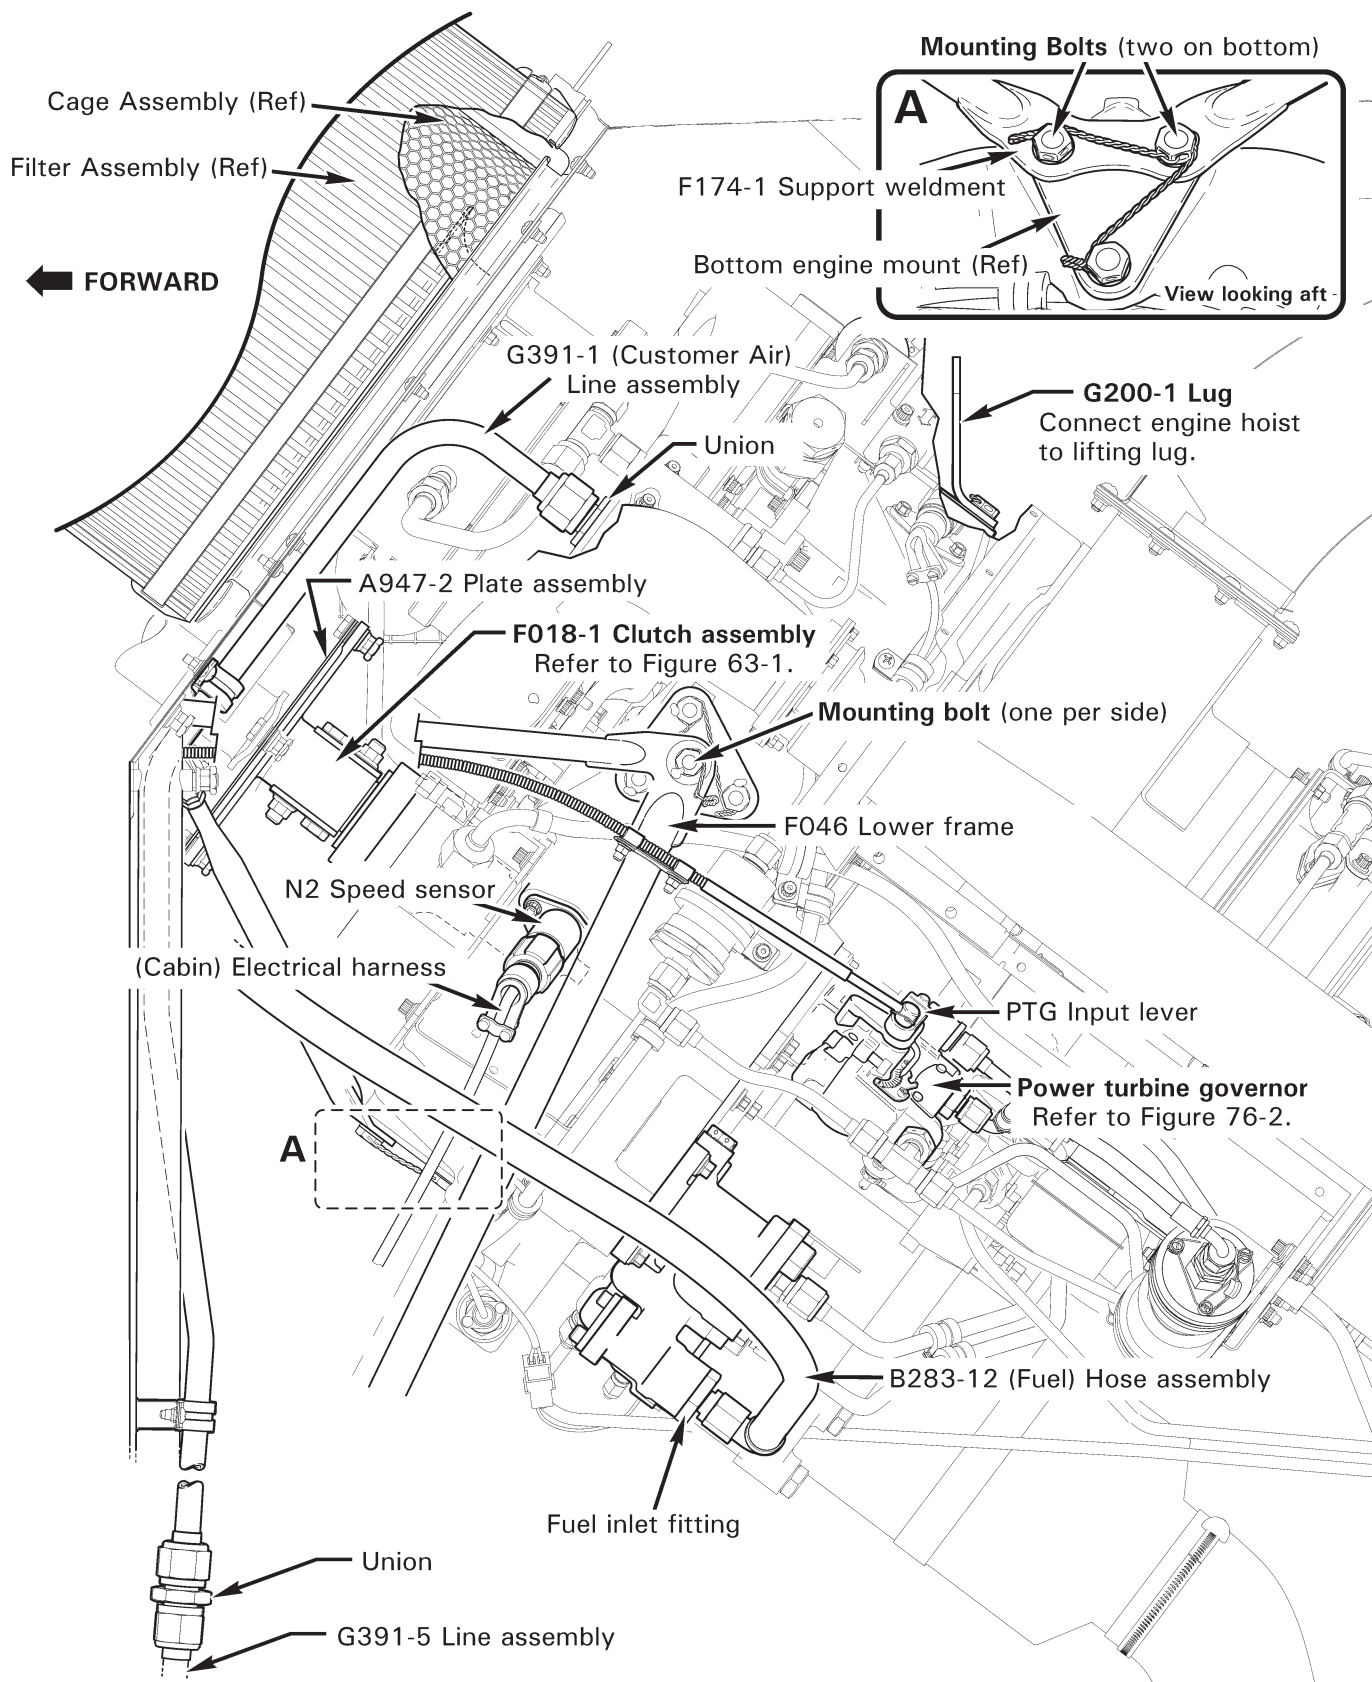

FIGURE 71-2 ENGINE - LEFT SIDE
7. Install 0.032-inch diameter lockwire & safety three bolts together per Figure 71-2 Detail A. Verify safety is correct direction.